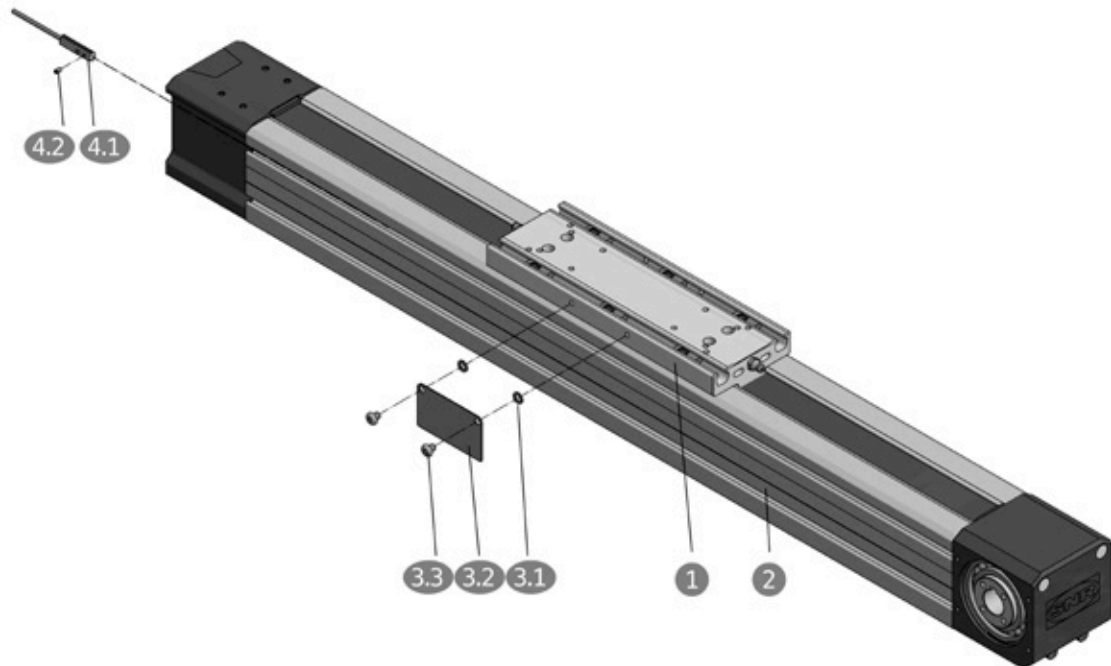

Figure 3.13 Mounting of inductive proximity switches for groove installation
As an alternative to the limit switches described in Chapter 3.12.1, the linear axes AXE60, AXE80 and AXE100 may also be equipped with inductive proximity switches for groove installation. The mounting of the limit switches and the actuating element must be carried out in the following steps according to Figure 3.13. For this switch version, table ① and the profile ② of the linear axis are also symmetrically designed, to allow mounting on both sides is possible.